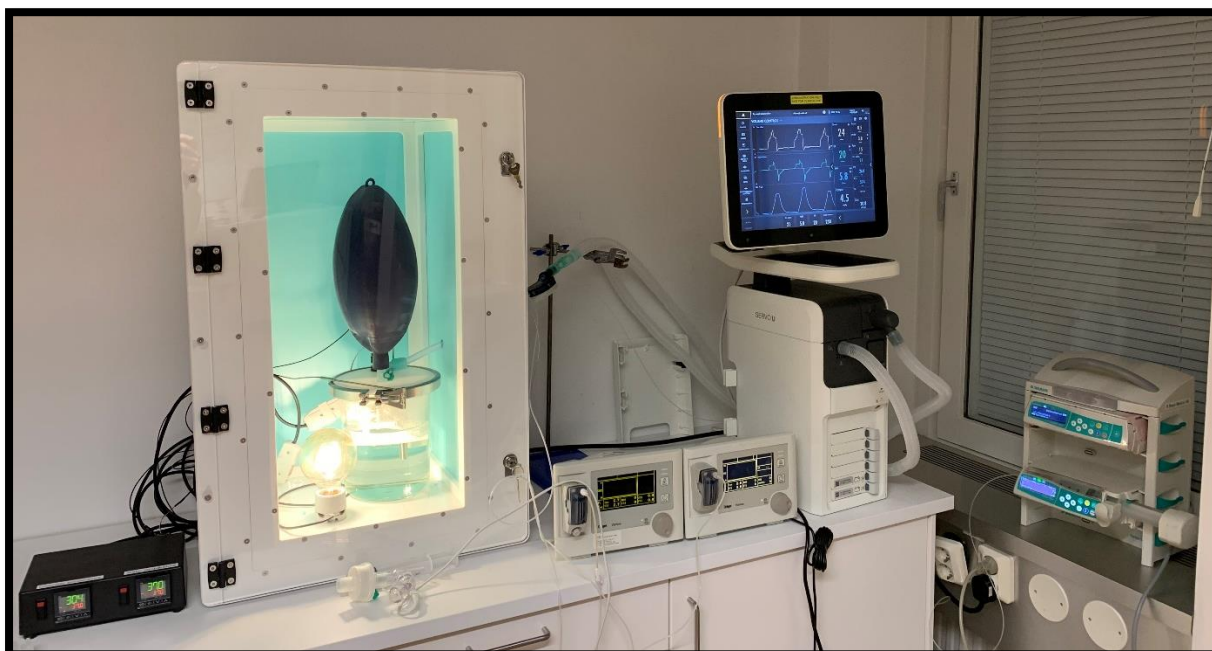
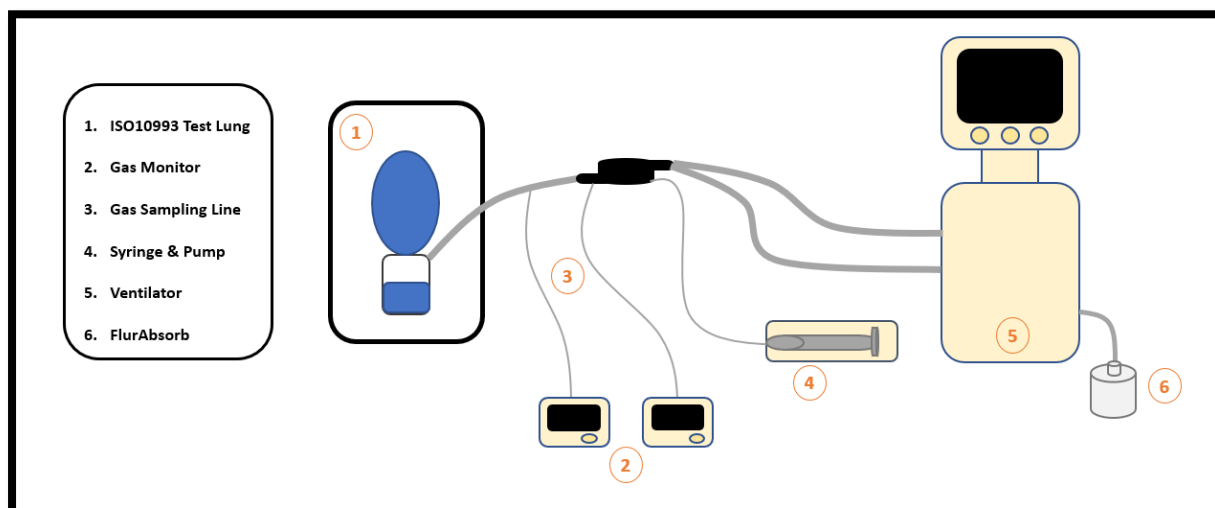

Figure 1 – Test Setup (Picture)
Figure 2 – Test Setup (Diagram)
- Set up the test apparatus as described in figure 1 and figure 2, with the two gas monitoring lines and gas monitors in series.